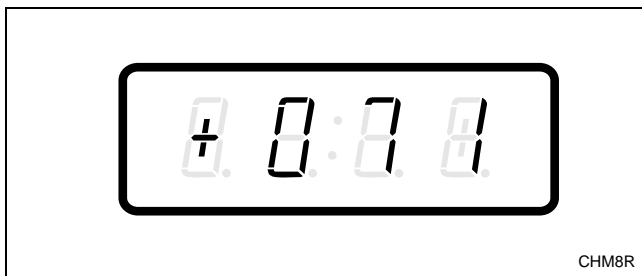

Figure 172
3. Press the DELICATES (+) or the COLD (-) keypad to scroll through the programmable options until “+071” appears in the VFD. Refer to *Figure 172*.